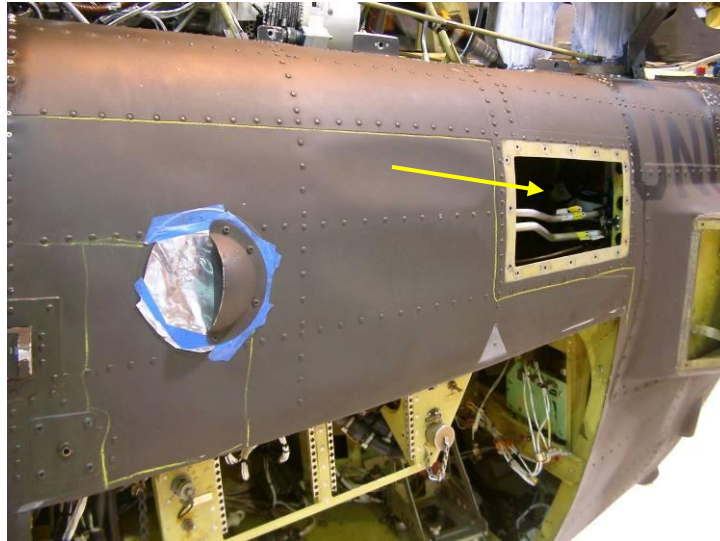

Figure 14, P/N 406-961-037-119, Access Panel
9. Remove the L/H directional servo access panel, P/N 406-961-037-119, IAW TM 1-1520-248-23 (Fig 14).
11. Re-install the L/H directional servo access panel, P/N 406-961-037-119, IAW TM 1-1520-248-23 (Fig 14).